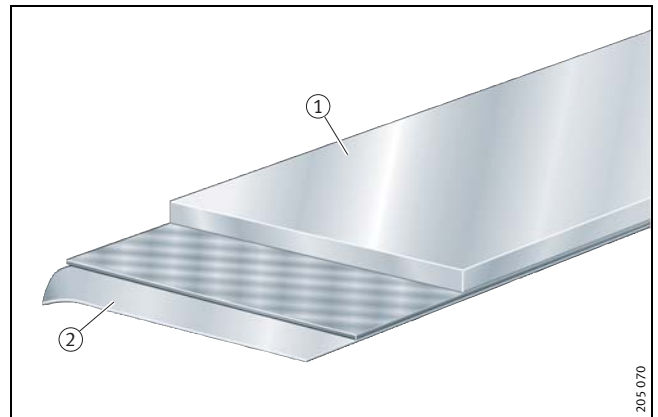

Figure 5 • Covering strip
The covering strip (Figure 5) is a magnetically permeable steel strip ① that is supplied separately. Once the magnetic strip is fitted, the covering strip is attached by adhesive in the upper guideway slot and then protects the plastic strip against damage and contamination.